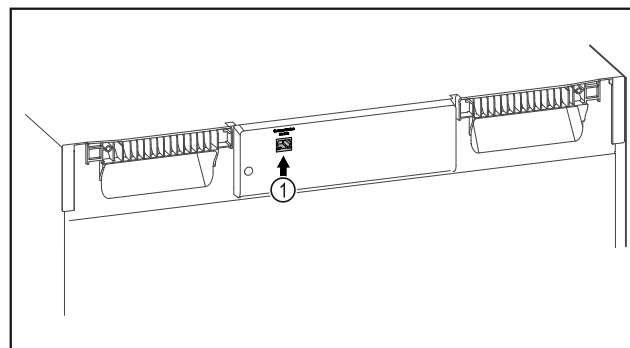

Fig. 107
- ❑ SmartModule Fig. 107 (1) is in use.